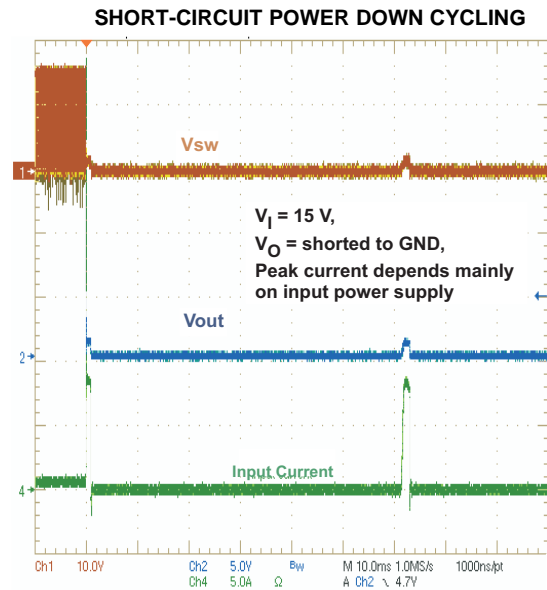

Figure 6.
**Boost converter  $V_s$ :** A short circuit is detected when the voltage on SUP, that is connected to the output falls typically below 4.5V. Then the isolation switch is opened by pulling GD high. After a delay of typically 60mS the isolation switch is closed again and restarts the output automatically. See Figure 6.